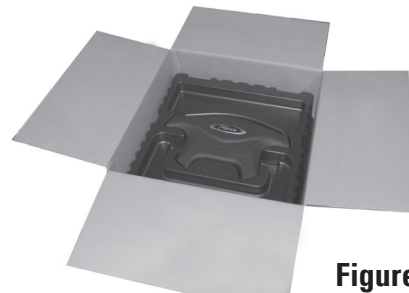

Figure 1
1. Remove DAB module from the package – there can be two units per carton. **See Figure 1.** If parts need to be returned, they **MUST** be returned in original packaging.